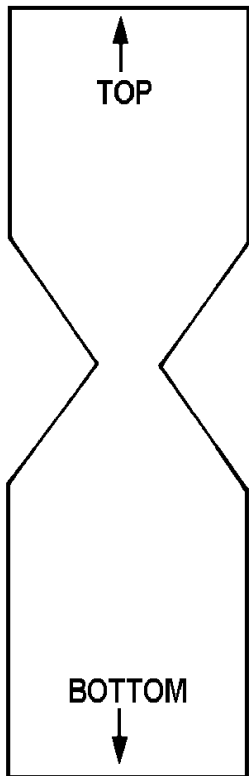

Figure 2
- Cut eight vertical back pieces (B) from 1 x 6 pine, each 19 inches long.
- Figure 2 shows the decorative pattern that is cut in each vertical back piece (B). Enlarge the pattern, trace it onto one of the vertical back pieces (B), and cut the board along the pattern lines. Use the resulting cut board to mark the same pattern on each of the remaining seven vertical back pieces (B).